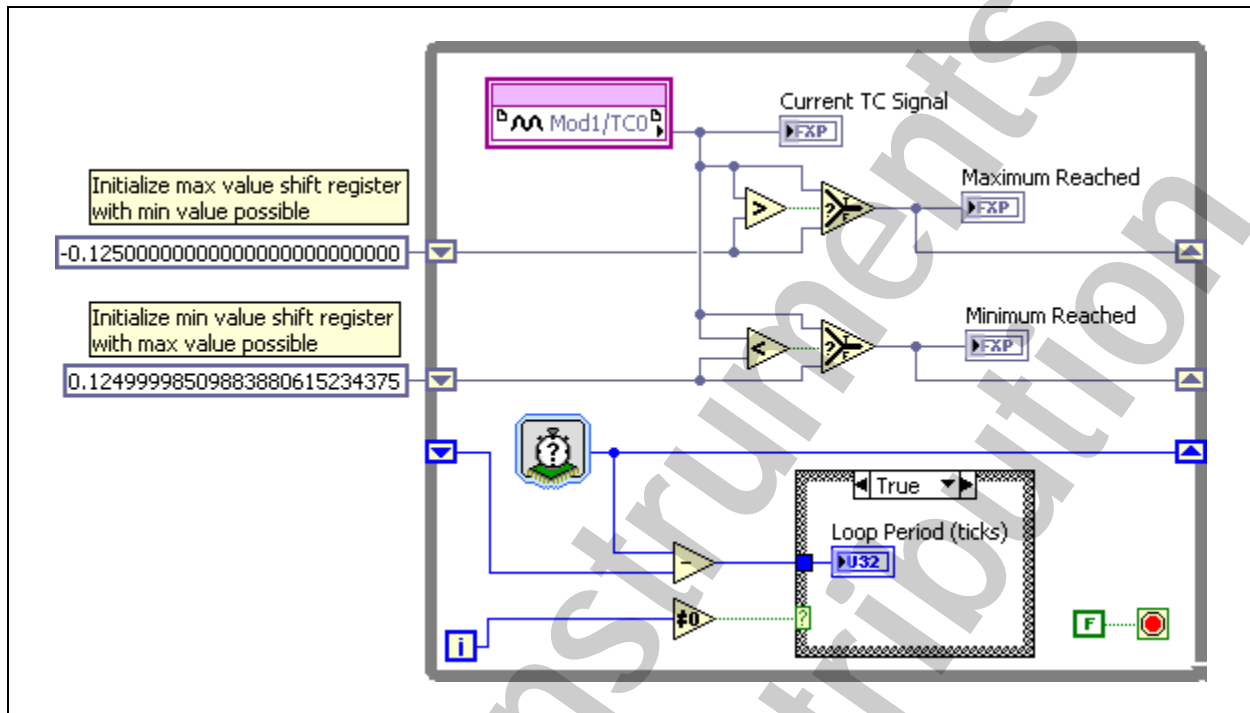

Figure 5-4. TC Max and Min Benchmark VI Block Diagram
5. Modify the block diagram as shown in Figure 5-4 to benchmark the loop iteration period using the following items:
- ☐ Wire the block diagram as shown in Figure 5-4.